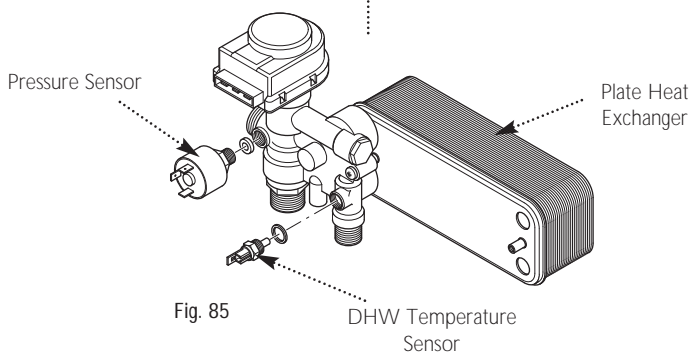

Fig. 85
14.9 Water Pressure Sensor (Fig. 85)
14.11 Safety Thermostat (Fig. 85)
14.12 DHW Temperature Sensor (NTC) (Fig. 85)